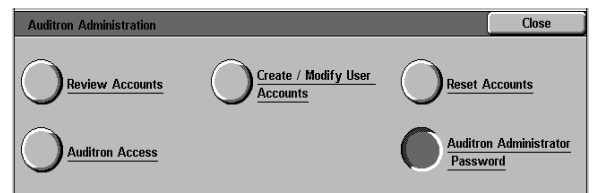

Figure 46: Auditron Administrator Password button
- 1 From the Auditron Administration screen, touch **Auditron Administrator Password** button, Figure 46.